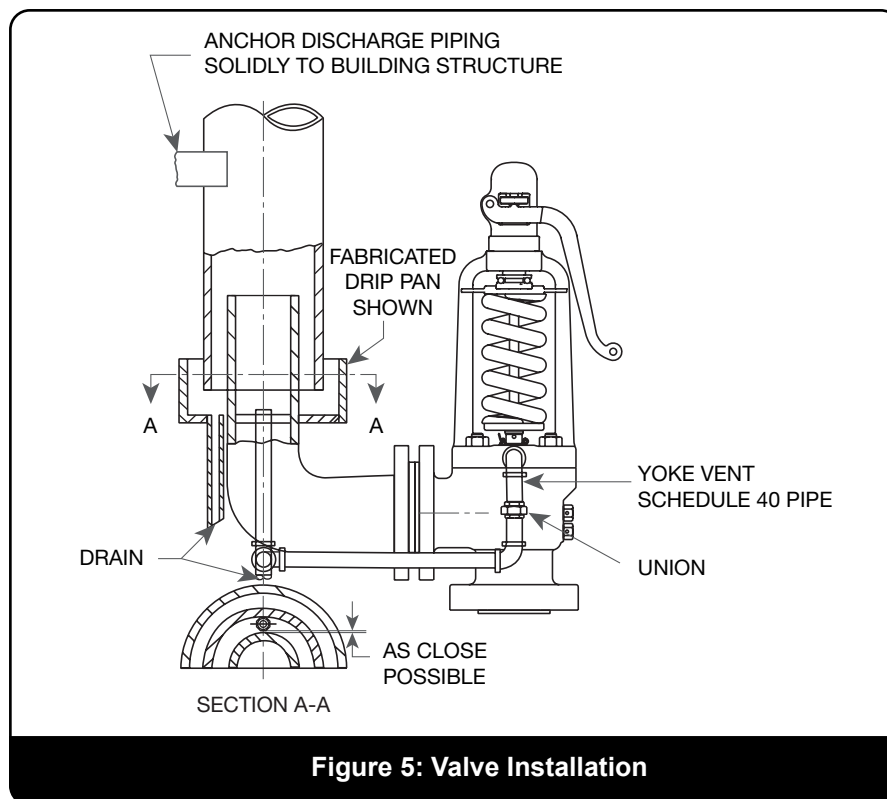

Figure 5: Valve Installation
1. The downstream corner of the header nozzle must be rounded to a radius of not less than .250" (6.35 mm) of the opening diameter. (See Figure 5.)
3. In cases where a piping configuration renders the above two recommendations impractical, or impossible, the downstream corner of the header nozzle inlet should be rounded to a greater extent than the upstream corner. The header nozzle entrance should be rounded so the radius at the downstream corner will be equal to a minimum of one-fourth of the nozzle diameter. The radius should be reduced gradually, leaving only a small portion of the upstream corner with a smaller radius. (See Figure 5.)